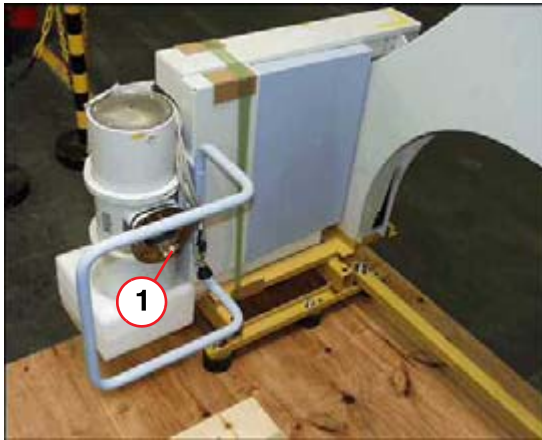

Fig. 29: Installing the collimator
- Mount the collimator on the tube assembly flange and align it (1/Fig. 29 / p. 27).